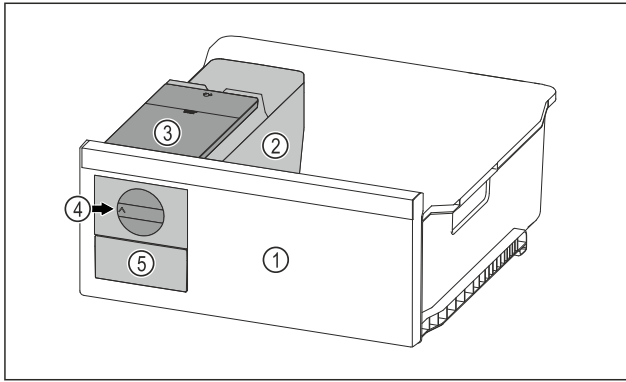

Fig. 119 Example illustration
- ▶ Turn the rotary knob *Fig. 119 (4)* clockwise as far as it will go.
- ▷ Ice cubes fall from the ice cube tray into the ice cube drawer *Fig. 119 (5)*.